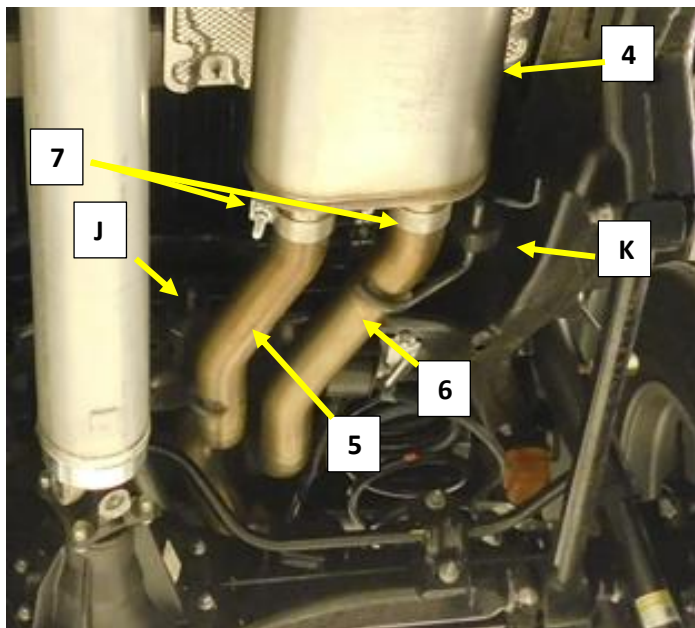

Figure.12
10. Install the Left Muffler outlet pipe **(6)** over the axle and into the expanded end of the left tail pipe of the tail pipe assembly. **Fig.12**
12. Install the Right Muffler outlet pipe **(5)** over the axle and into the expanded end of the Right tail pipe of the tail pipe assembly. **Fig.12**
14. Align the muffler outlet pipes **(5) (6)** with the muffler **(4)**. **Fig.12**